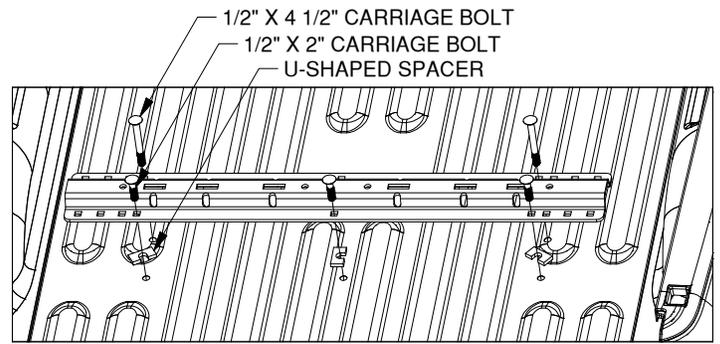

Figure B1: View looking into truck bed from rear of truck.
**1. The rear mounting rail.** Re-position the rear mounting rail over the drilled 9/16" holes in the bed. Install two 1/2" X 4 1/2" carriage bolts into the two forward drilled positions (holes over the crossmember) and install three 1/2" X 2" Carriage bolts through the three rear drilled positions, as shown in figure B1. Place a U-shaped washer between the bed and the mounting rail at the three rear drilled positions.